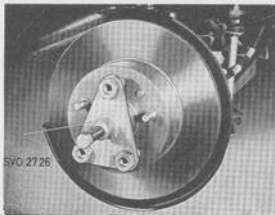
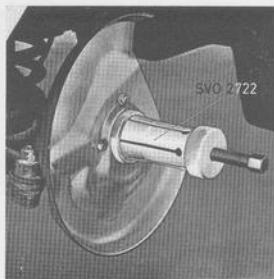

Fig. 6-19. Removing front wheel hub
Fig. 6-20. Removing inner bearing
2. Remove the grease cap with tool 2715. Remove the split pin and castle nut. Pull off the hub with puller 2726, see Fig. 6-19. Pull off the inner bearing for the steering knuckle with tool 2722, see Fig. 6-20.
1. Place the inner bearing in position in the hub and press in the sealing washer (1, Fig. 6-20) until it goes against the bearing outer ring. Use drift 5005 and standard handle 1801.
3. Press the sealing ring (2, Fig. 6-20) onto the steering knuckle without the tool until it bottoms. It is important that the ring is not fitted at an angle.